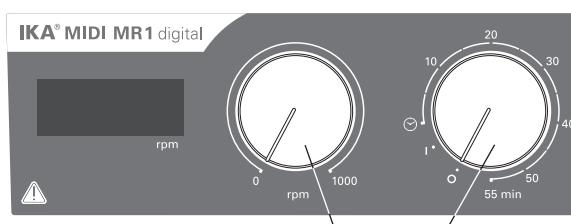

Fig. 3
- ⇒ To switch the device on, turn the "On/Off" and "Timer" rotary knob (B, see **Fig. 3**) clockwise to the "1" position.
- ⇒ To switch the device off, turn the "On/Off" and "Timer" rotary knob (B) to "0" position.
- ⇒ Set the motor speed by turning the "Speed" rotary knob (C, see **Fig. 3**). The motor speed can be set to between 0 to 1000 rpm for **MIDI MR 1 digital** and 0 to 600 for **MAXI MR1 digital**.